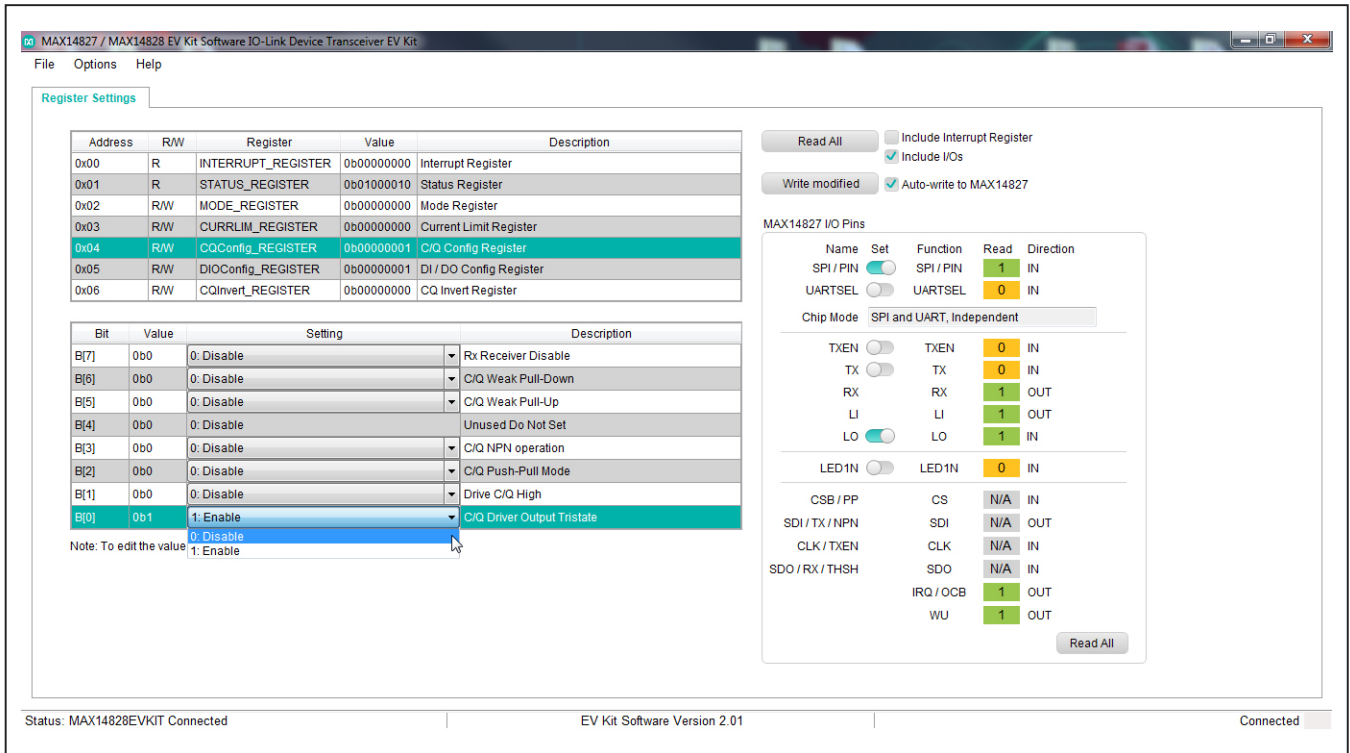

Figure 2. MAX14828 EV Kit Software—Setting a Bit
- 16) Enable the CQ driver by setting the CQDis bit B[0] in the CQConfig register to 0. See Figure 2.